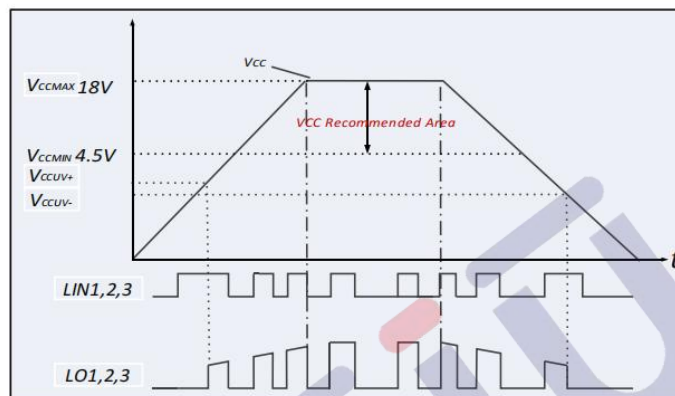

Figure. 1 VCC supply UVLO operating area
VCC is the low side supply and it provides power to both input logic and low side output power stage. The built-in under-voltage lockout circuit enables the device to operate at sufficient power when a typical VCC supply voltage higher than V_{CCUV+} is present, shown as Figure. 1. The U5315-6T(Q) shuts down all the gate driver outputs, when the VCC supply voltage is below V_{CCUV-} , shown as Figure. 1. This prevents the external power devices against extremely low gate voltage levels during on-state which may result in excessive power dissipation.